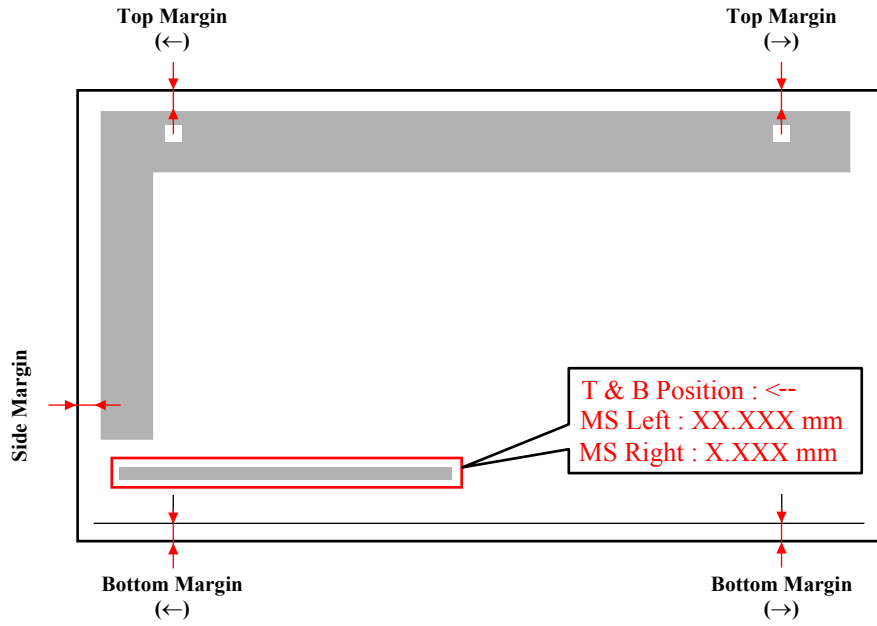

Figure 5-27. Adjustment Pattern
3. Referring to Figure 5-27, measure the distance of the following three points.
Check the direction of the arrow beside the "T&B Position" printed on the bottom right of the adjustment pattern print. If the arrow is right-pointing, measure the top and bottom margin width on the right side of the adjustment pattern, and if it is left-pointing, measure those on the left side of the pattern as shown in Figure 5-27.
Measure the side margin width indicated on Figure 5-27.